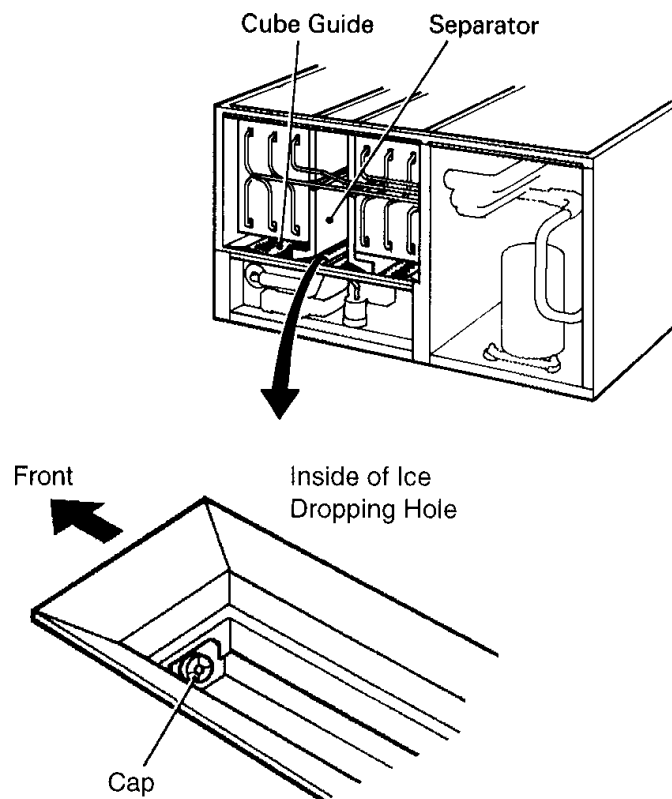

Fig. 12
- 12) Remove the Insulation Panel. Remove the Cap located on the front bottom part of the Ice Dropping Hole. Drain the Water Tank. See Fig. 12.
- 4) Close the Potable Water Supply Line Shut-off Valve and open the Potable Water Supply Line Drain Valve. See Fig. 12.
- 3) Remove the Insulation Panel. Remove the Cap located on the front bottom part of the Ice Dropping Hole. Drain the Water Tank. See Fig. 12.